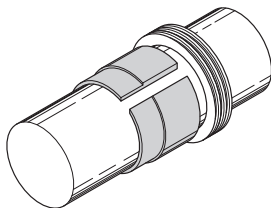

Fig. 20-6 Adapter sleeve.
2. Position the adapter sleeve onto the shaft, threads facing outboard, to the approximate location on the shaft to provide the proper center-to-center bearing distance (Fig. 20-6).